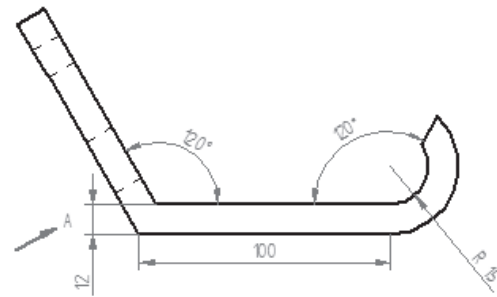

Figure 11-40 Front view after placing the angular dimension
6. Place the missing dimensions, as shown in Figure 11-40, using the dimensioning tools.